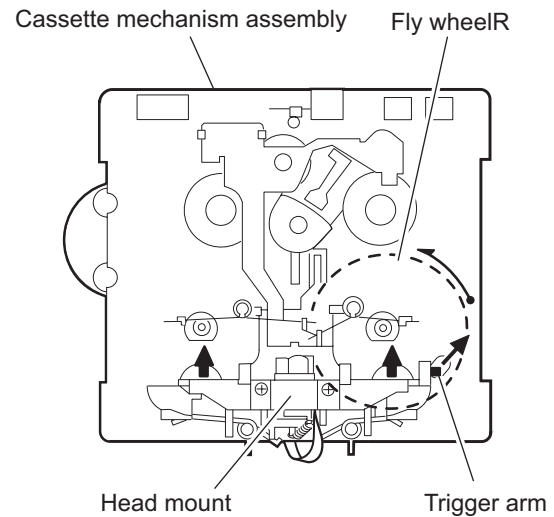

Fig.1
3.3.1 Removing the Play/Record & Clear head (See Fig.1~3)